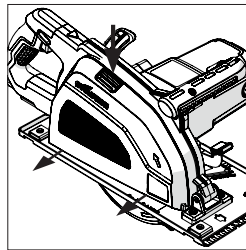
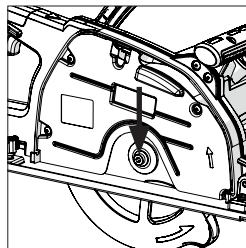
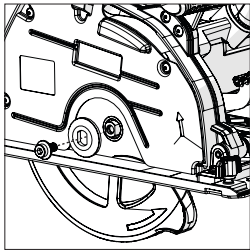

Fig. 3
Fig. 4
Fig. 5
- Remove the chip collector, (12), by depressing the release button, (13) (Fig.3), exposing the blade bolt, (Fig.4).
- Engage the arbor lock button (17) and loosen the blade bolt using the supplied hex key. The blade bolt is equipped with a standard screw thread (turn the counter clockwise to loosen).
- Remove and safely store the blade bolt and outer flange. (Fig.5)
- Rotate the lower blade guard (16) then remove blade.